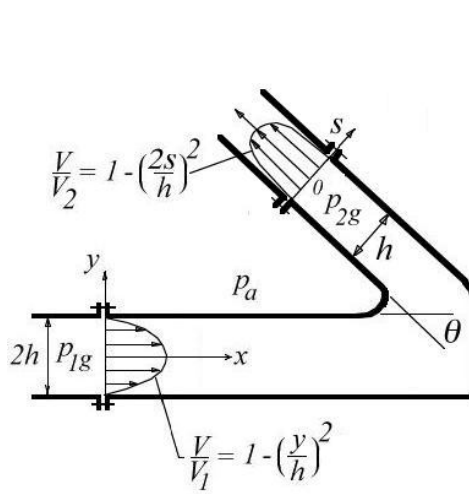

Figure P3.47
3.47 Air flows steadily through a bend of width w , as shown in Figure P3.47. Gravity and viscous forces are not important, and the air density ρ is constant. Show all your working.